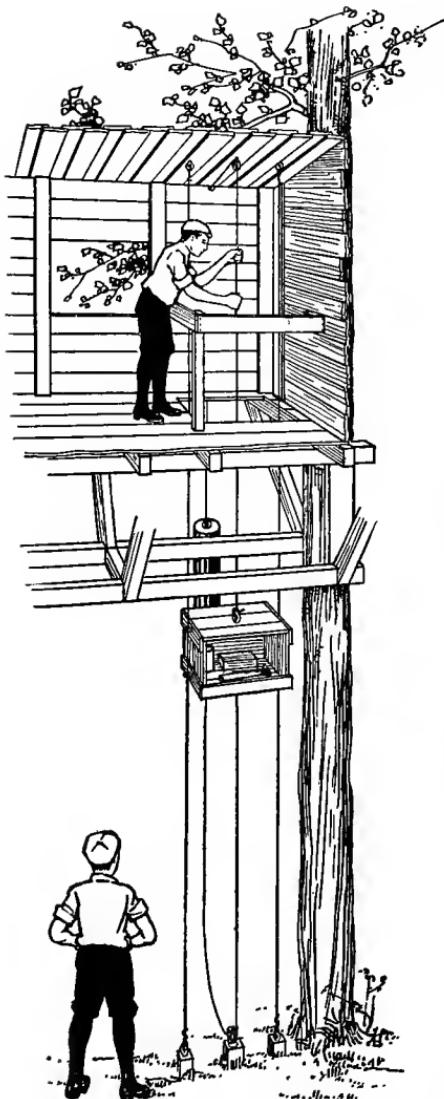

FIG. 544.—A Tree-Hut Dumb-Waiter.
**Build a Railing** around the elevator opening for protection when the car has been lowered. If this is built as shown in Fig. 544, the car can be reached from beneath the top rail.